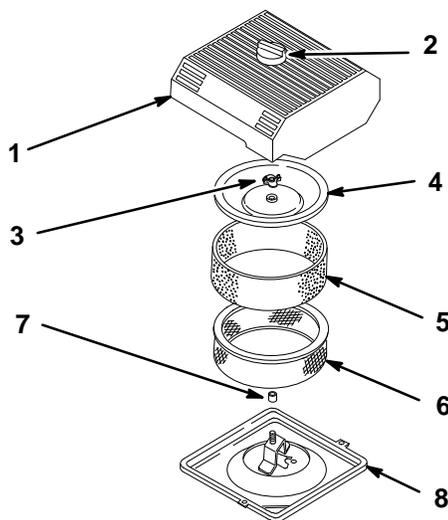

Figure 25
3. Clean around the air cleaner to prevent dirt from getting into the engine and causing damage. Unhook the latches and remove the air cleaner cover (Fig. 25).
4. Carefully slide the foam element off the paper element (Fig. 25).
5. Unscrew the cover nut and remove the cover and paper element (Fig. 25).
1. Carefully slide the foam element onto the paper air cleaner element (Fig. 25).
2. Slide the air cleaner assembly and cover onto the long rod. Now screw the cover nut finger-tight against the cover (Fig. 25).
3. Install the air cleaner cover and hook latches (Fig. 25).